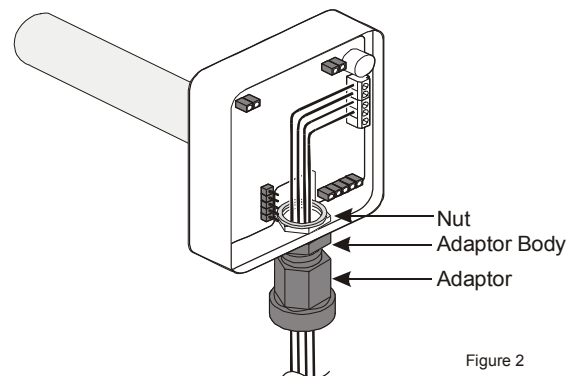

Figure 2: Inserting the Conduit Adaptor
3. Manually tighten the adaptor into the nut, turning in a Clockwise (CW) direction (see Figure 2).